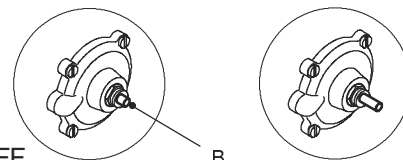

Fig. 12.2
- 3 Looking through the switch box verify the position of the shaft B referring to Fig. 12.2.